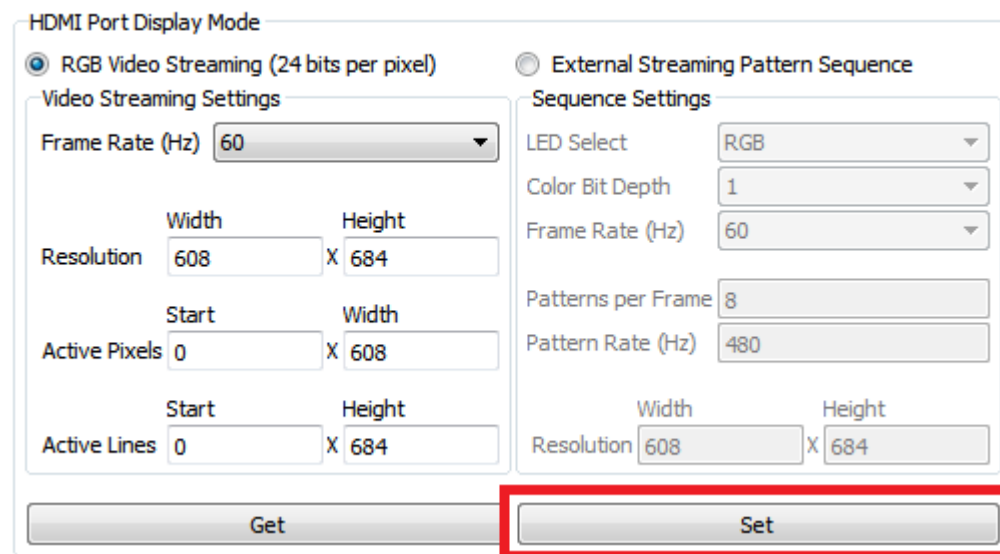

Figure 2-35. DLP LightCrafter GUI RGB Video Streaming Set Button
7. Click the Set button as shown in Figure 2-35.